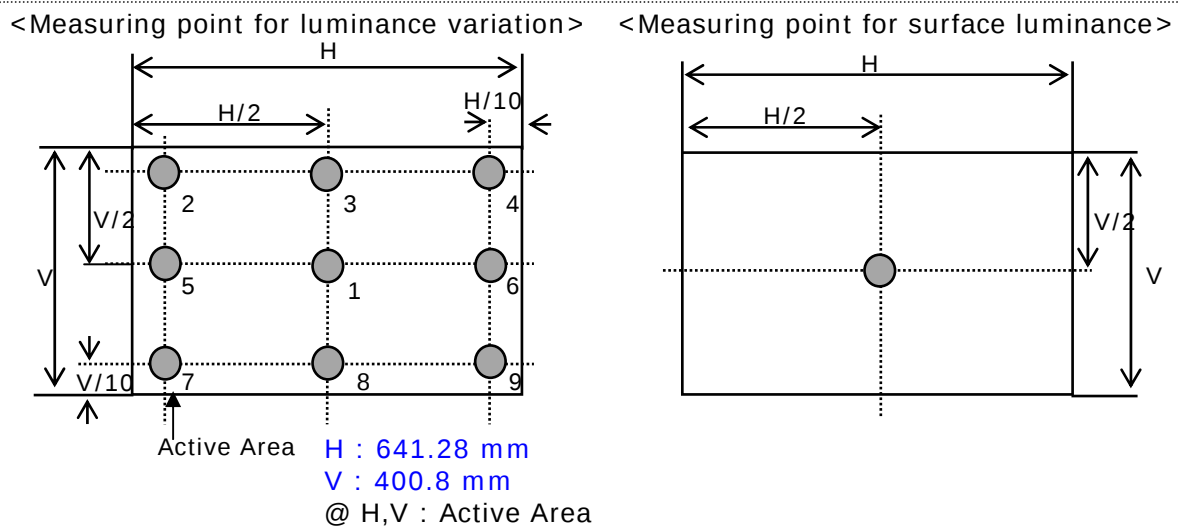

FIG. 3 Measure Point for Luminance
2. Surface luminance(L_{WH})is luminance value at center 1 point(1) across the LCD surface 50cm from the surface with all pixels displaying white. For more information see FIG 3.
For more information see FIG 3.